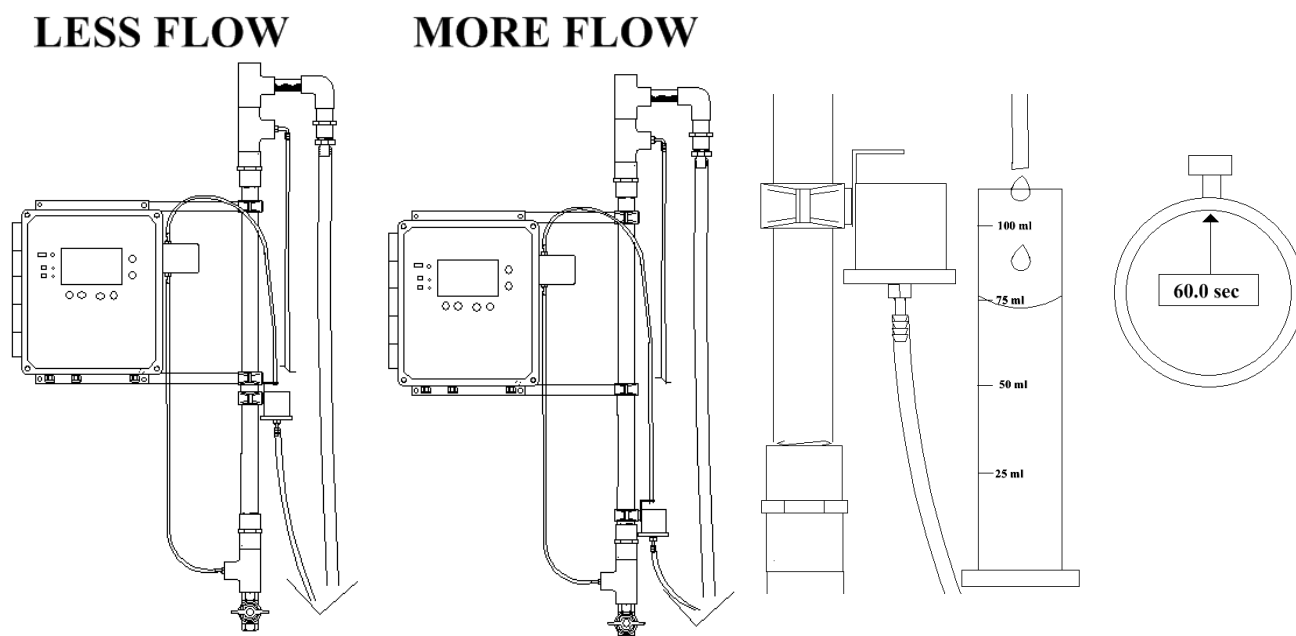

Figure 16 Sensor Flow Rate Adjustment
2. Mount the Weir to the right of the unit (as shown in figure 16) and insure there is a minimum of 4 inches between the Weir and the sensor (the sensor protrudes from the top right side of the enclosure). The cap on the sensor may need to be removed at some point for maintenance and mounting the Weir too close to the sensor will make it impossible to remove the cap without first removing the weir.